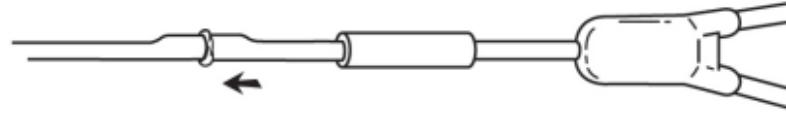

Fig. 7
7. Slide the metal cannulae of the replacement catheter end completely into the catheter. (Fig. 7)